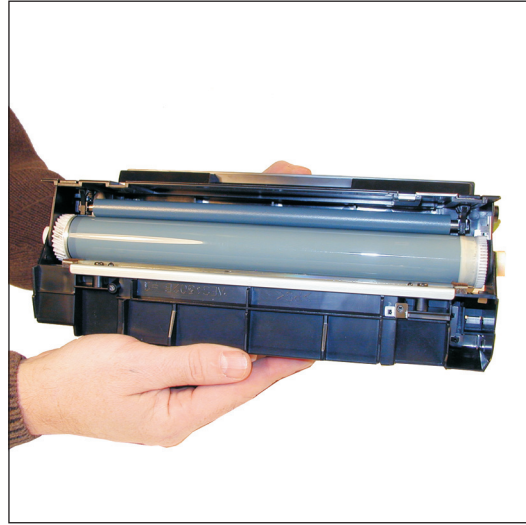

Figure 40
33) Hold the waste chamber at 90 degrees to the supply hopper. Hook both sides to the drum axle pins. Rotate the waste chamber up until it is flush with the top of the supply. See Figure 40